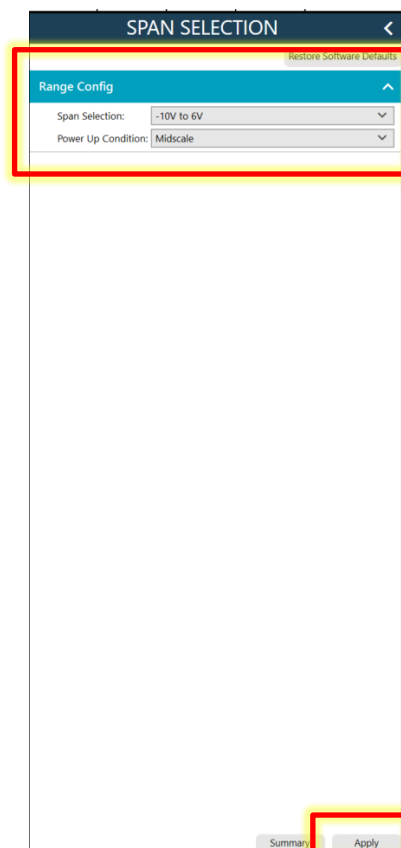

Figure 18 Span Selection
3. On the Span Selection > Range Config (as shown in Figure 18 Span Selection) set:
2. On the "Span Selection" > Range Config similar to Figure 18. Span Selection set: